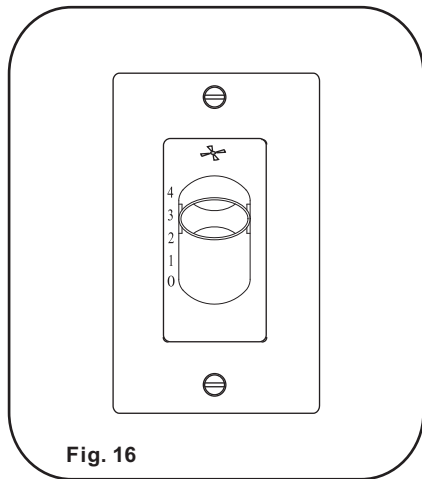

Fig. 16
1. The fan 4-speed control is used to set the fan speed as follows: (Fig. 16)